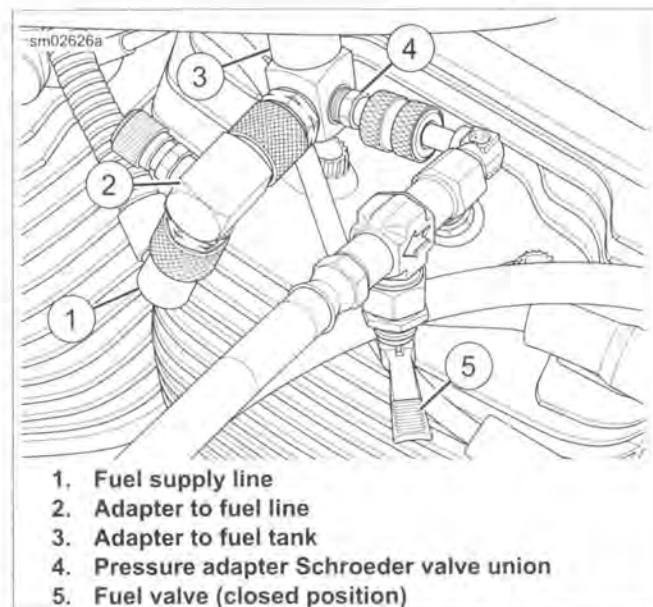

Figure 4-54. Fuel Pressure Test Connections
- b. See Figure 4-54. Pull up on chrome sleeve of quick-connect fitting and insert neck of FUEL PRESSURE GAUGE ADAPTER (Part No. HD-44061) into fuel supply line.